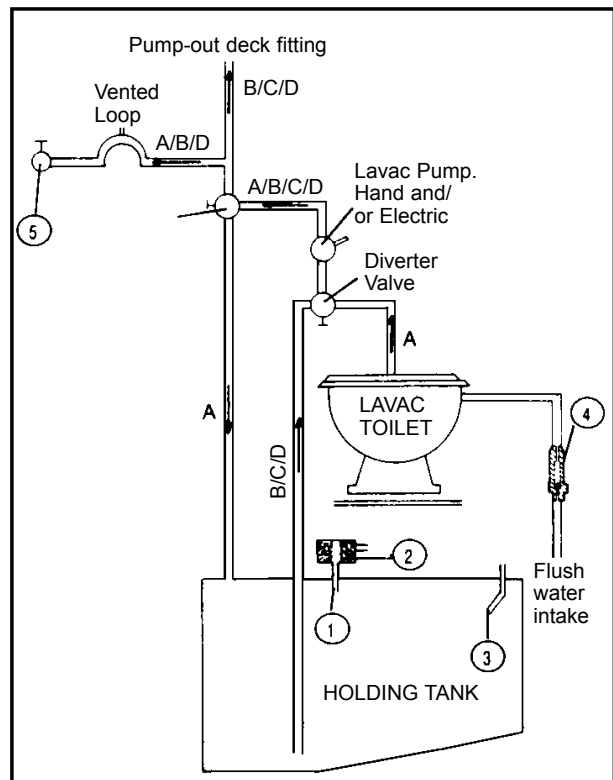

Fig. 3
**4** - An alternative to fig.3. This system provides a self pump-out facility to shore or sea, using the one toilet pump. Only installations with Lavac toilets can operate this system. When being pumped out by quayside facility this arrangement avoids the tank contents being drawn through the pump and uses only one sewage pipe connection to the tank.